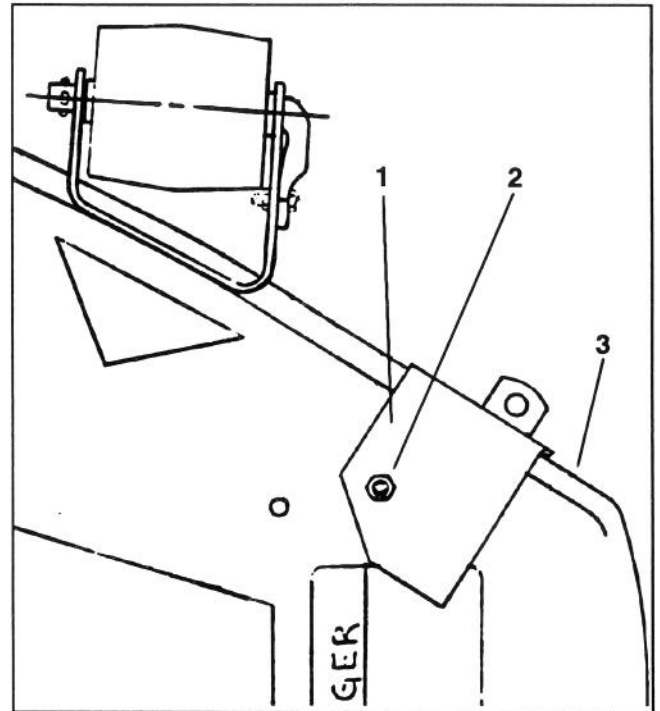

Figure 10
18. Position pivot support on mower housing, aligning hole in pivot support with hole in top of mower deck, as shown in figure 10. Secure top of pivot support to mower with a 5/16 – 18 x .75" lg. capscrew and 5/16 – 18 lock nut (supplied in Easy Twin Bagger Loose Parts). Capscrew head to be positioned on underside of mower deck.
19. Align front edge of pivot support with front of mower deck (Fig. 10) and tighten capscrew and nut.